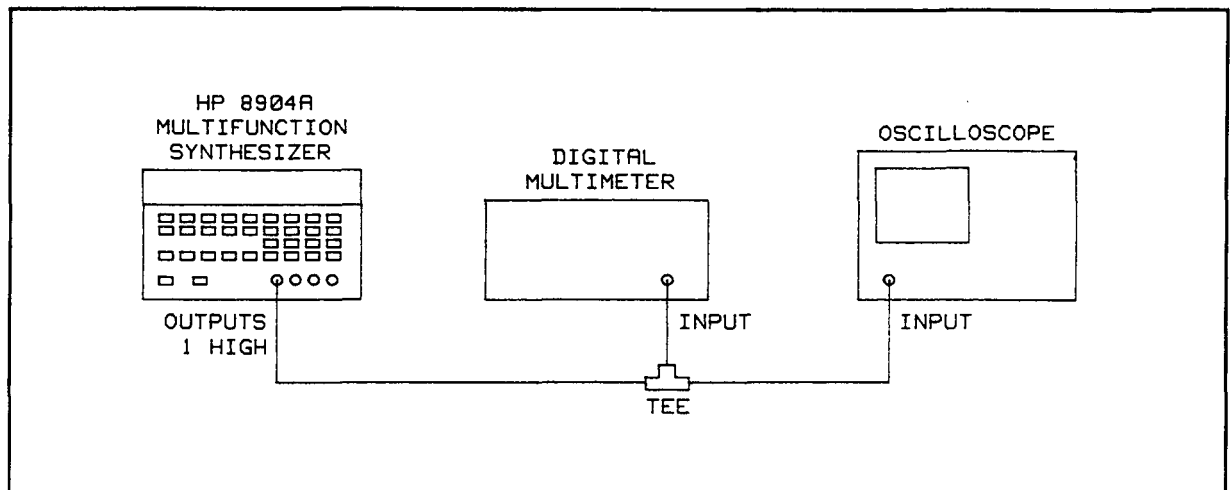

Figure 4-1. AC and DC Amplitude Accuracy Performance Test Setup
2. Connect the Multifunction Synthesizer, OUTPUTS 1 HIGH output and the digital multimeter input both to the oscilloscope's dc coupled high-impedance, vertical input using a tee. Refer to Figure 4-1.
7. Connect the Multifunction Synthesizer, OUTPUTS 2 HIGH output and the digital multimeter input both to the oscilloscope's dc coupled high-impedance, vertical input using a tee. Refer to Figure 4-1.